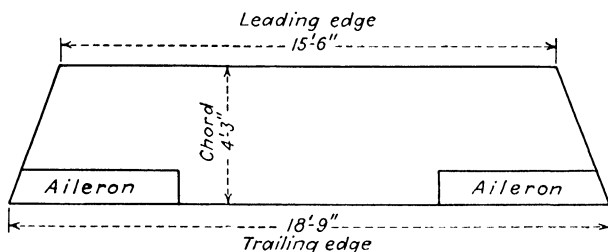

Fig. 84b.
4. Find the area in square feet of the airplane wing, including the ailerons, shown in Fig. 84b.